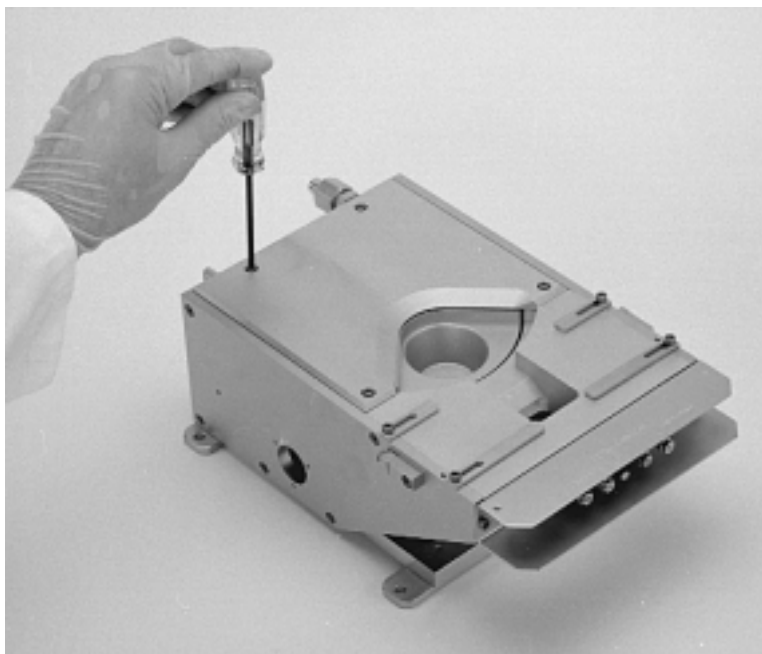

Figure 6-4. Removing the crucible cover
Step 4: Using the Allen tool provided with the unit, remove the four 8-32 3/8" screws that secure the crucible cover to the coil housing (see Figure 6-4). Then remove the cover.